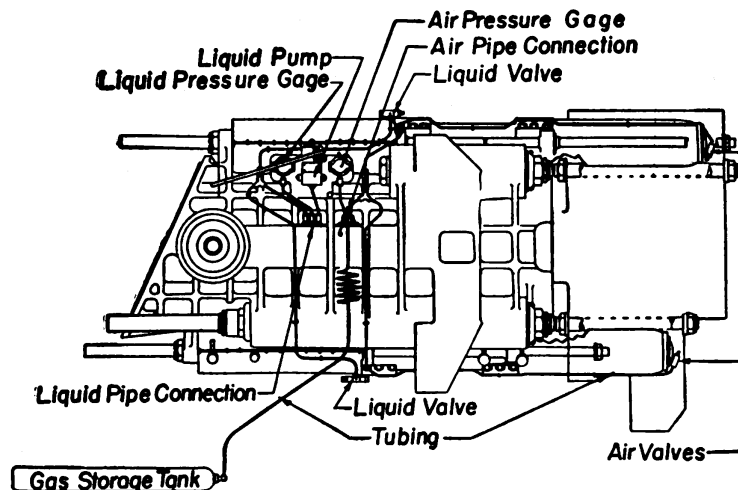

FIGURE 39.—Piping for filling recuperator cylinders, 14-inch railway gun.
**Q.** What provision is made for draining and refilling the air chamber? **A.** The air valve (see fig. 39) located at the rear end of each recuperator cylinder is fitted with two needle valves, one for emptying and one for filling. The filling valves are connected by tubing with the air pipe connection fastened to the cradle. This connection is connected by tubing to the air gage. The air pipe connection has an inlet with plug by which the coiled tubing from the compressed gas cylinder is attached.